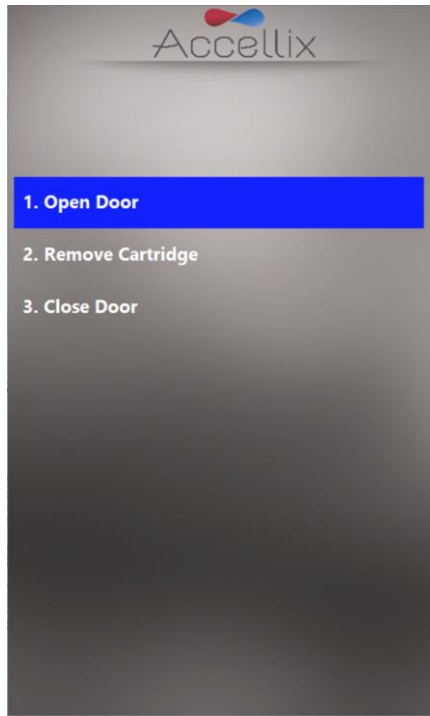

Figure 43: Remove Cartridge screen displayed following conclusion of test
14. On-screen instructions (Figure 43) prompt the user to open the instrument door, remove the cartridge, and finally to close the instrument door.